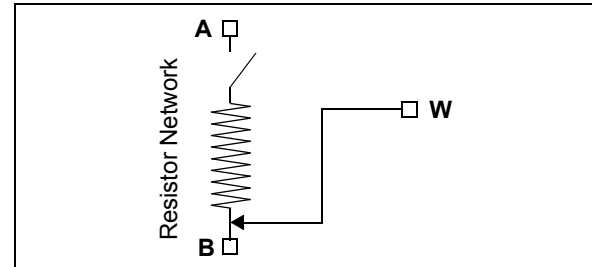

**FIGURE 5-2:** Resistor Network Shutdown State (RxHW = 0).
- The P0W, P1W, P2W and P3W terminals are simultaneously connect to the P0B, P1B, P2B and P3B terminals, respectively (see Figure 5-2)